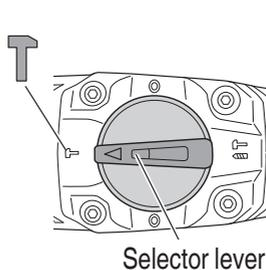

Fig. 6
- (1) Switching to “hammering”
- (b) Align ▲ of the selector lever and T of the crank cover as illustrated in Fig. 6.